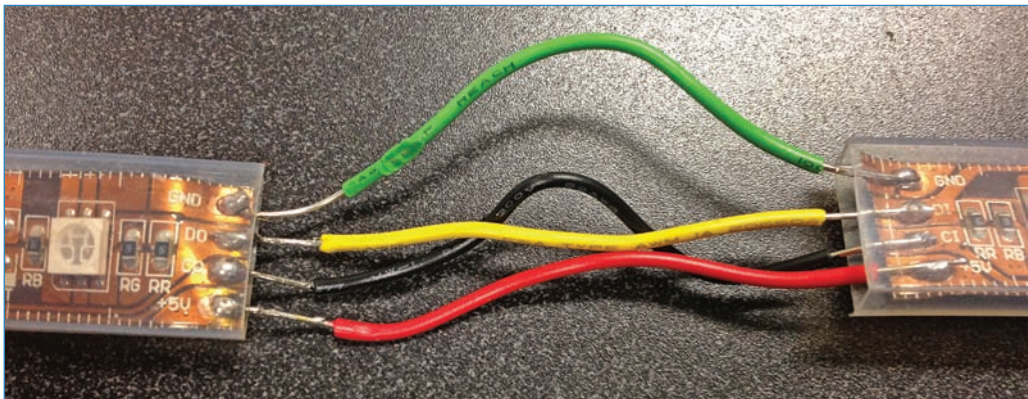

FIGURE 3.25 Connect each solder pad to its mate on the other strip.
- 3.** Add a dab of solder to each pad, and then tin the end of your jumper—you probably need less than a quarter-inch of exposed wire—and solder it to the pad, as shown in Figure 3.25. Some people also use hot glue on the exposed contacts to ensure the connection remains solid.